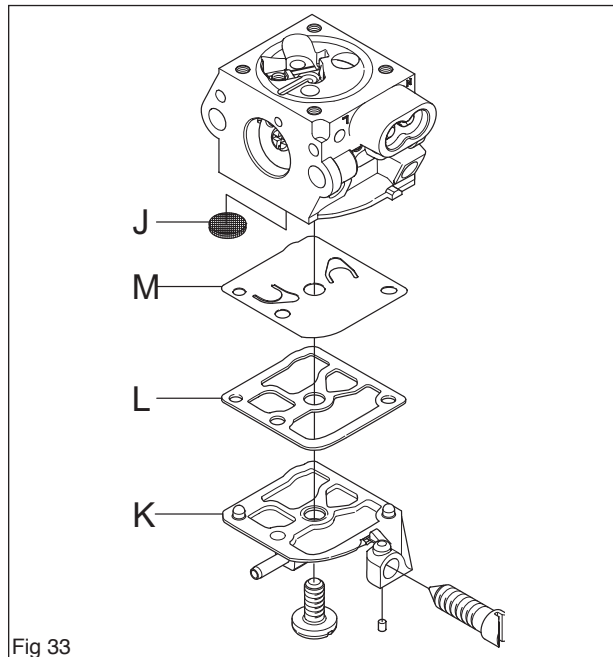

Fig 33
3. Fit the fuel filter (J) by using the handle of a small screwdriver. (see figure 33)
4. Fit the pump diaphragm (M), gasket (L) and cover (K) on the pump unit. (see figure 33)